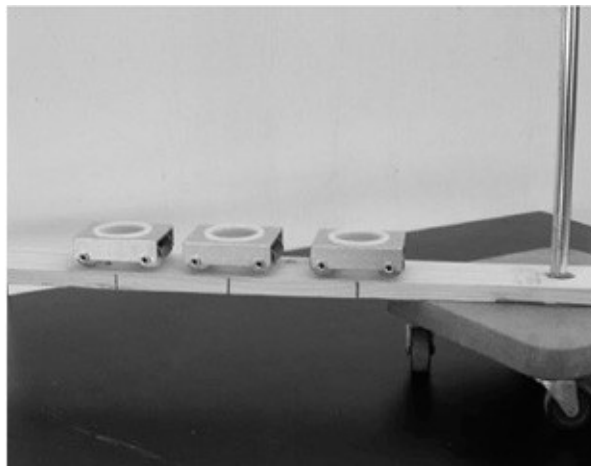

Figure 15-1 *Position of cars before rotation.*
2. Place each of the cars along a line running from the center to the outer edge of the board at approximately 6-inch intervals, as shown in Figure 15-1. (You can also do this with pennies or other objects instead of cars.)